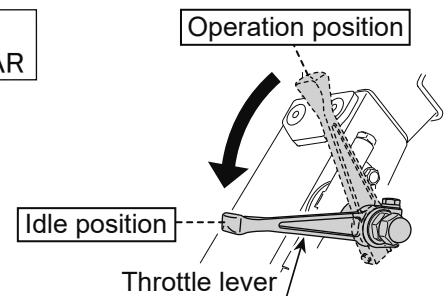

Fig.23
- 3 If you want to suspend the work, the throttle lever return to the idle position quickly. (Fig.23)